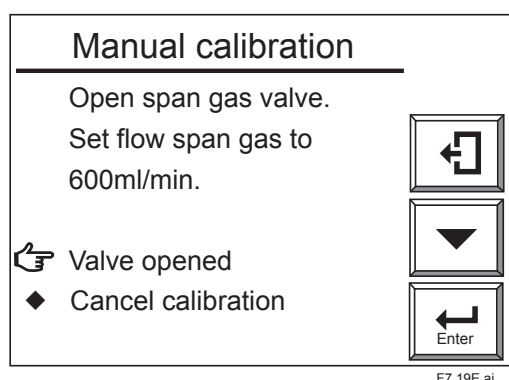

Figure 7.30 Span gas Flow Display
- (3) Follow the display message in Figure 7.30 to turn on span gas flow. Open the span gas flow valve for the Flow Setting Unit by loosening the valve lock nut and slowly turning the valve shaft counterclockwise to flow the span gas at  $600 \pm 60$  ml/min. Use the calibration gas flowmeter to check the flow.
- (4) If "Valve opened" is selected as in Figure 7.30, an oxygen concentration trend graph (with the oxygen concentration being measured) appears (see Figure 7.31). The CAL.TIME in the bottom area of the panel flashes. Observe the trend graph and wait until the measured value stabilizes in the vicinity of 21% on the graph. At this point, calibration has not yet been executed yet, so even if the measured value is above or below 21%, no problem occurs.